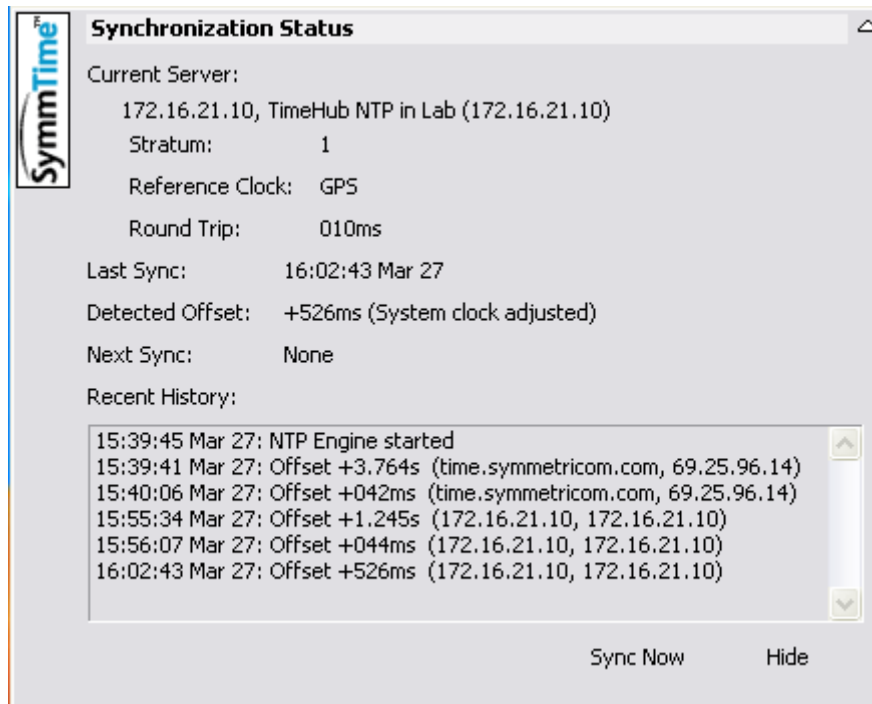

Figure 4-3. The Synchronization Status Window in SymmTime
9. Right-click anywhere in the SymmTime window and select Sync Status... The Synchronization Status window appears as shown in Figure 4-3.